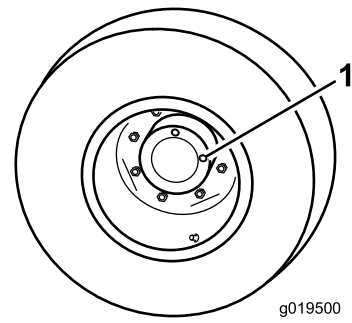

Figure 14
1. With machine on level surface, position the wheel so 1 check plug is at the 12 o'clock position and the other is at 3 o'clock position (Figure 14).
1. Check/drain plug (2)
2. Remove the plug at the 3 o'clock position (Figure 14).